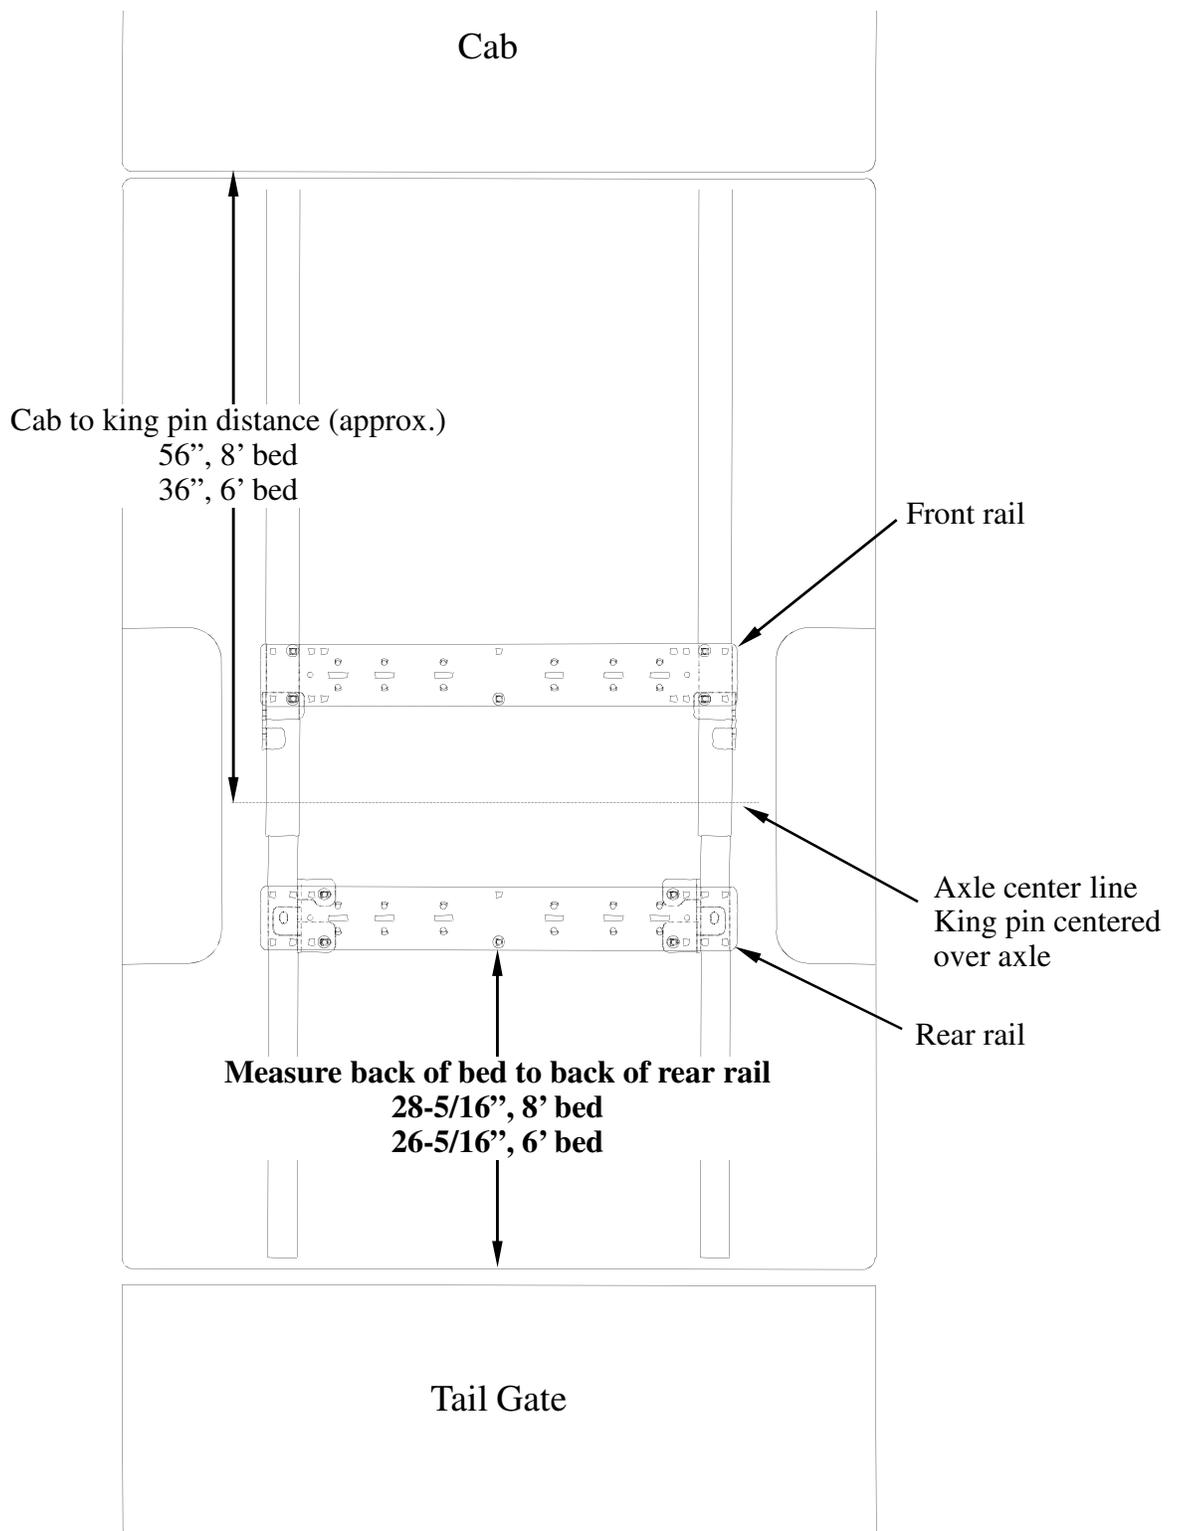

Figure 3
3. Place the rear mounting rail in the box of the truck. Using your tape measure, center the rail between the weld seams on the length of the truck box floor and the proper distance from the rear edge of the truck box as illustrated in Figure 3.
4. Mark and center punch the holes as per the illustration in Figure 3. Move the rail out of the way and drill each position with a 1/8" drill bit. The front row of holes on the rear rail need to go through the bed support. **WARNING: When drilling holes be aware of potential risks to vehicle components and make appropriate safe guards to protect them from damage.**